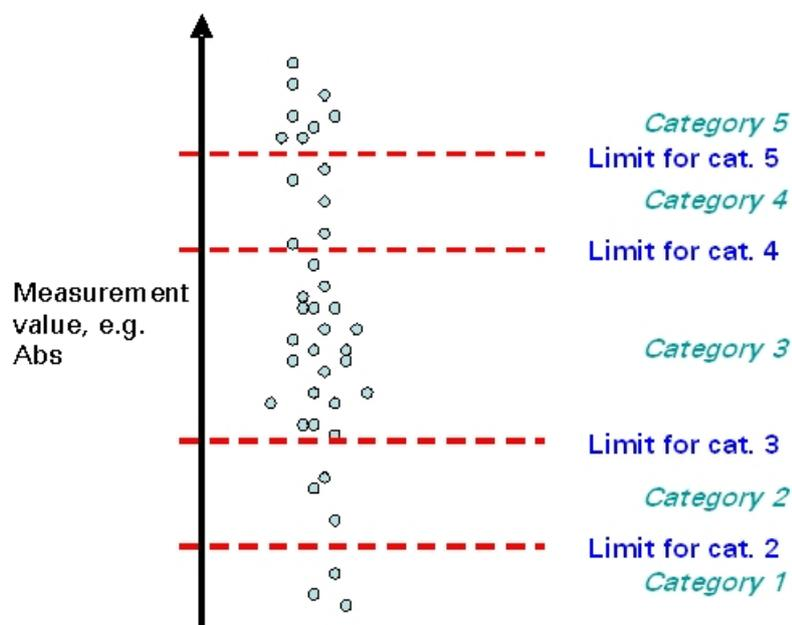

Figure 10-1. Dividing measurement results into categories using cut-off limits
In a qualitative classification analysis, the raw data is divided into separate categories. You can define limits as boundaries for the different categories (see Figure 10-1). There can be up to five limits in SkanIt Software, thereby dividing the data into a maximum of six different categories. The limits (boundaries) can be set as a number, a formula, a specified sample, or a formula containing both samples and numbers. The formulas can contain the operations +, -, / and *. The limits are defined as “less than” limits (<) at the lower limit of the category and “less or equal than” (<=) at the higher limit.
- **Limit to category** - Select the number of categories that you want to have by ticking the *Limit to category* check box for each desired category starting from the bottom (see Figure 10-1). Those categories become available and **Qualitative Classification Limit Wizard** is launched.